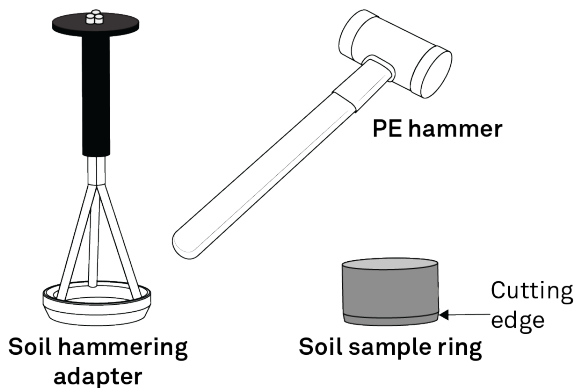

Figure 2 Soil sample tools needed
- METER soil sample ring (Figure 2)
- METER hammering adapter (Figure 2)
- PE hammer (Figure 2)